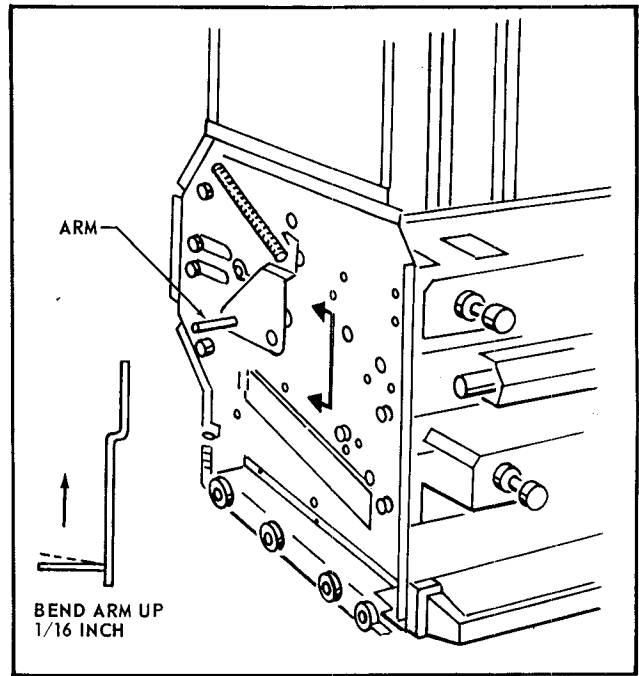

FIGURE 10
- c. Carefully bend the Arm on the Book Match Cam Assembly up, about 1/16 inch. See Figure 10.